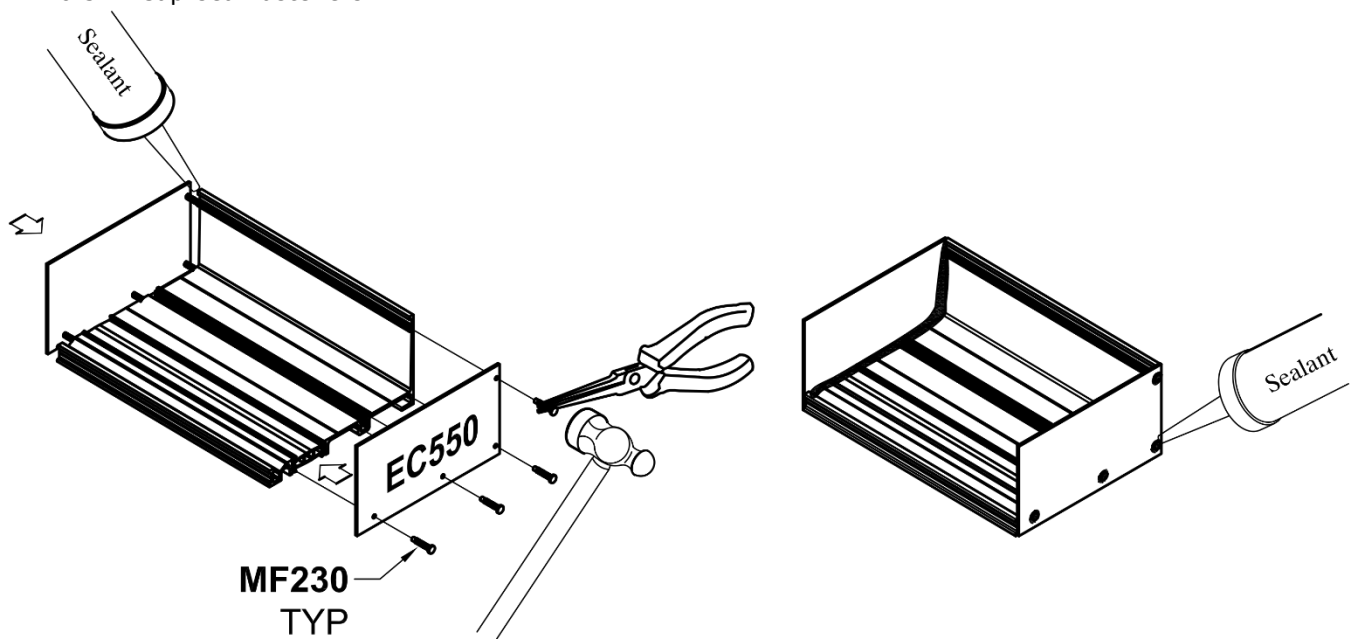

Figure 25: Sill Receptor End Dam Attachment
- 10.2 Attach **EC550** End Dam with (4) **MF230** fasteners, as shown in *Figure 25*, stopping 1/4" short of attaching completely.